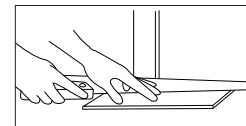

Figure 6
- Undercut door casings and jambs. Remove any existing base, shoe mold or doorway thresholds. These items can be replaced after installation. All door casings and jambs should be undercut to avoid difficult scrub cuts (Figure 6).